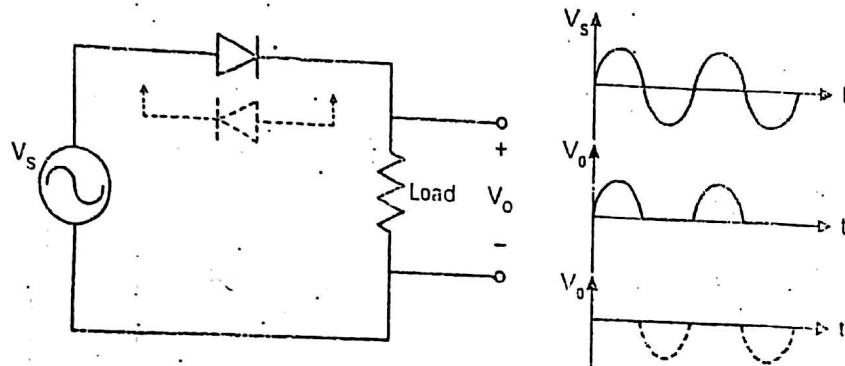

Figure 1: Simple diode clipper
- A diode connected in series with the load can clip off any half cycle of the input depending on the orientation of the diode (figure 1).